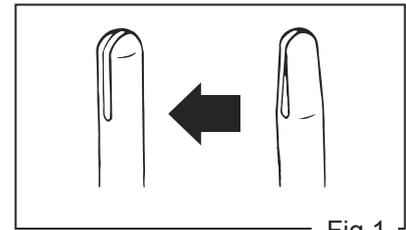

Fig.1
- If the groove of the terminal is closed, use a driver or some other tool to open it. (Fig.1)